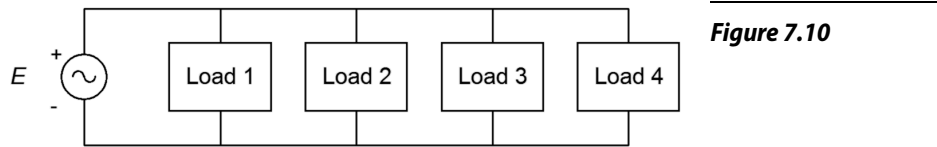

Figure 7.10
29. For the system shown in Figure 7.10, E is 240 V. Load 1 is 1.2 kW resistive heating, load 2 is 400 W resistive lighting, load 3 is a 0.5 HP motor that is 80% efficient with a 0.7 lagging power factor, and load 4 is a 1 HP motor that is 85% efficient with a 0.8 lagging power factor. For the system, determine the apparent power delivered, the source current, the real power, the reactive power and the power factor.